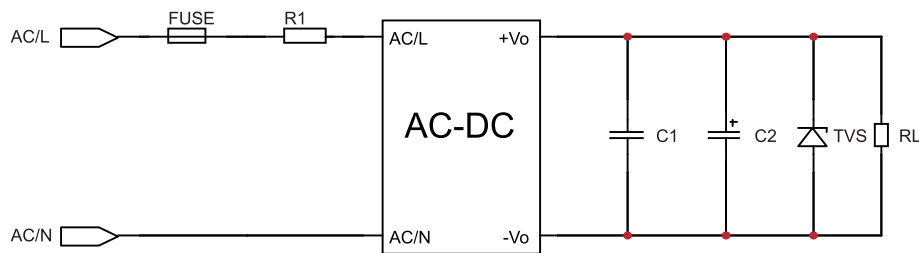

Fig.1: Typical circuit diagram
7. Unless otherwise specified, EMC performance indicators are tested according to typical application circuits (Fig. 1)